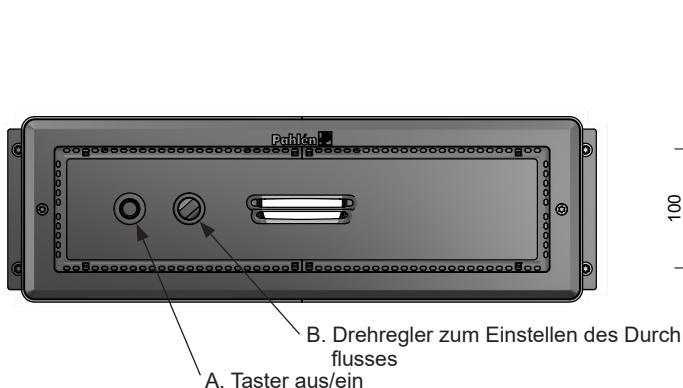

Bild 3: Jet Swim Athlete, Ansicht von vorne.
1. Start by pressing the start button (A) in the front, see Figure 3.
2. The jet can be adjusted by turning knob (B), see Figure 3. The range between max and min is about 2½ turns.